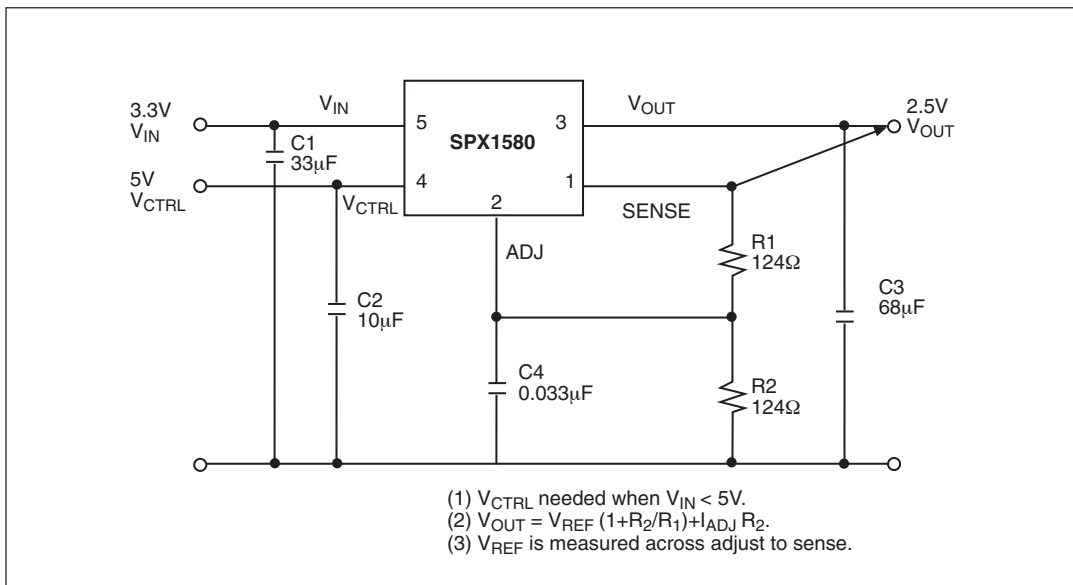

Figure 1. Adjustable Regulator.
1.25V reference voltage is being developed between the SENSE pin and the ADJ pin of the SPX1580. Adding two external resistors (see fig 1.) will allow setting the output voltage from 1.25V to 6V. R1 is chosen so that this current is specified minimum load current of 10mA. R2 is given by the formula:  $V_{OUT} = V_{REF} (1 + R_2/R_1) + I_{ADJ} R_2$ . The current flowing from the ADJ pin is typically 50 $\mu$ A. This ADJ pin contributes to the final VOUT but is usually neglected. Connecting the sense pin to the top of the resistor divider will improve load regulation.